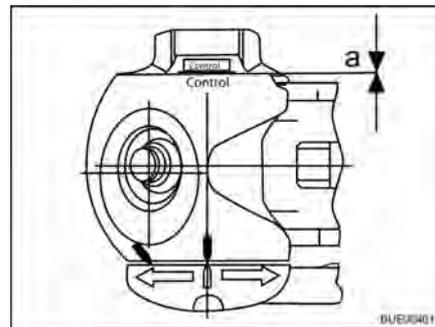

Fig. 197 Friction control
- Distance $a = 0$ (Fig. 197): Check and, if necessary, replace the friction pads.